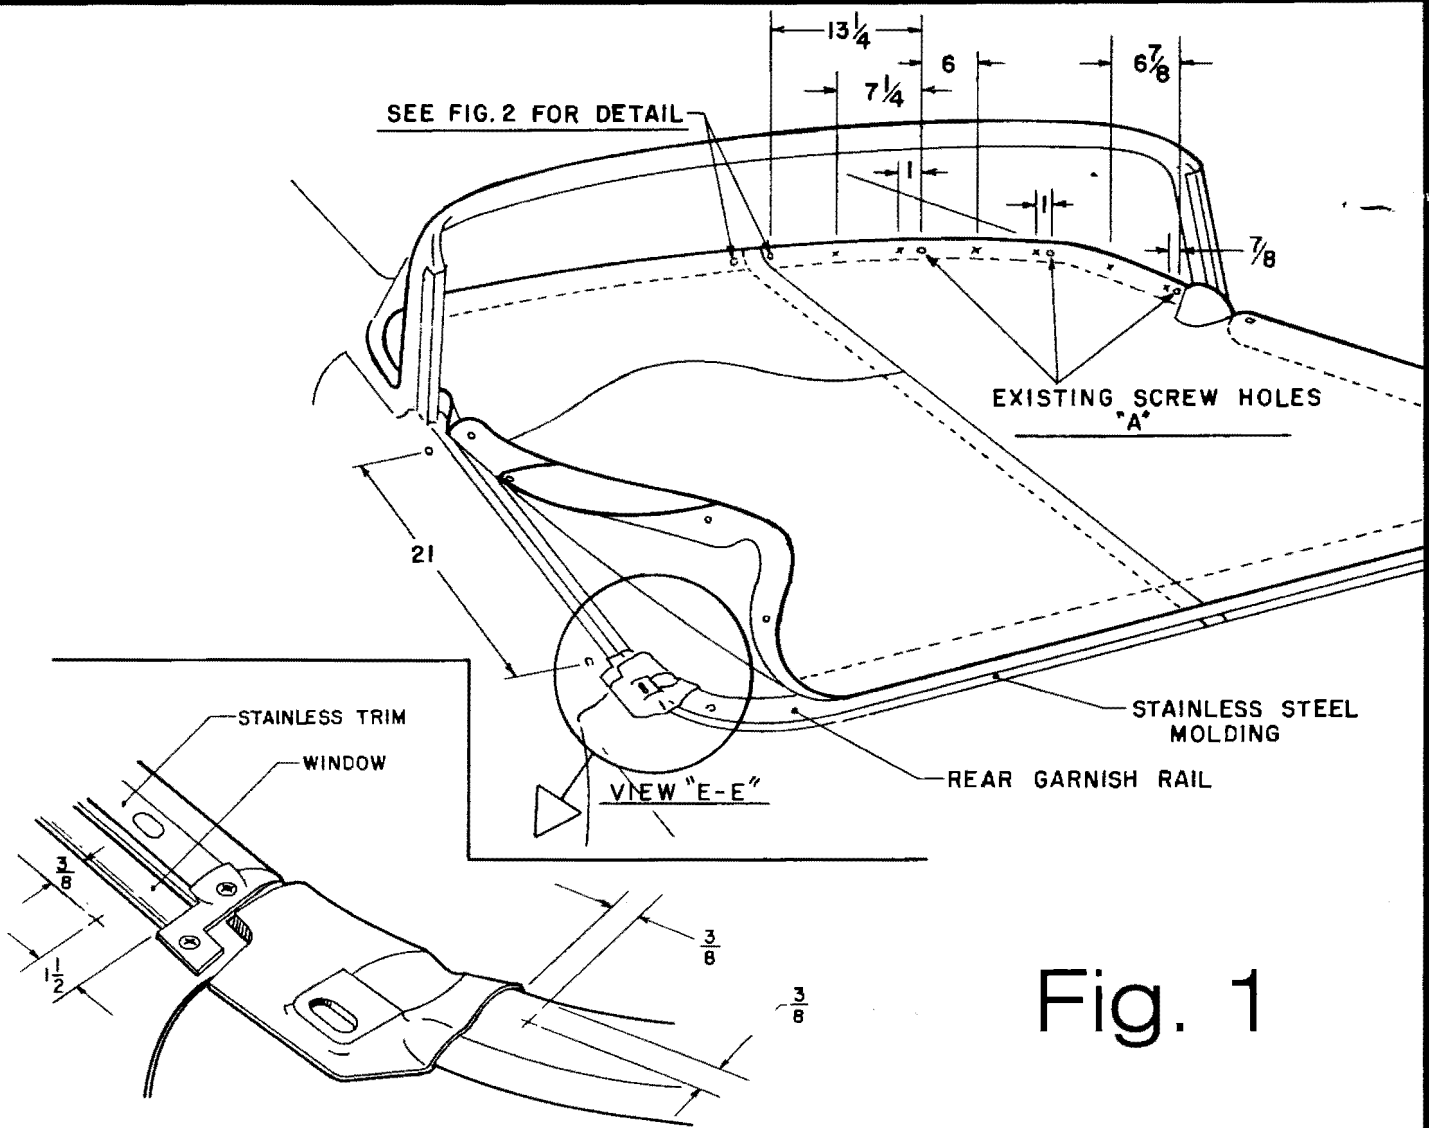

Fig. 1
1. Using 3 existing screws (located at points "A" shown in Fig. 1) on each side of windshield garnish molding as measuring points, determine fastener locations. (Fig. 1)
2. Using dimensions shown in Fig. 1, drill seven holes (.117"-.121") in left and right sides of windshield moldings and insert studs and snap bases (item "C-C") indicated in page 1. Also drill 2 holes in each door and 1 hole in each end of rear garnish rail. (See Fig. 1)
9. Chalk the three studs previously installed along each side of body and install corresponding buttons and sockets in the same manner described in steps 4 and 5. See "E—E" (Fig. 1) for typical installations.